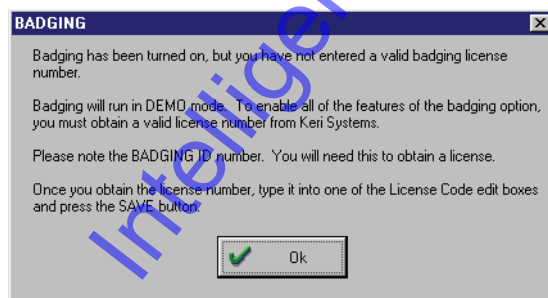

Figure 9-17: Badging Demonstration Acknowledgment
- If you choose to enable badging at this time, click on the  button. A Badging Demonstration Acknowledgement window appears (see Figure 9-17) informing you that a license code is necessary to print badges without the “SAMPLE” watermark. Click on the  button. The badging features are all enabled in demo mode.
12. If you have entered an incorrect License Code, the Badging Demonstration Acknowledgement window appears (see Figure 9-17 on page 16 of this section). Click on the  button.